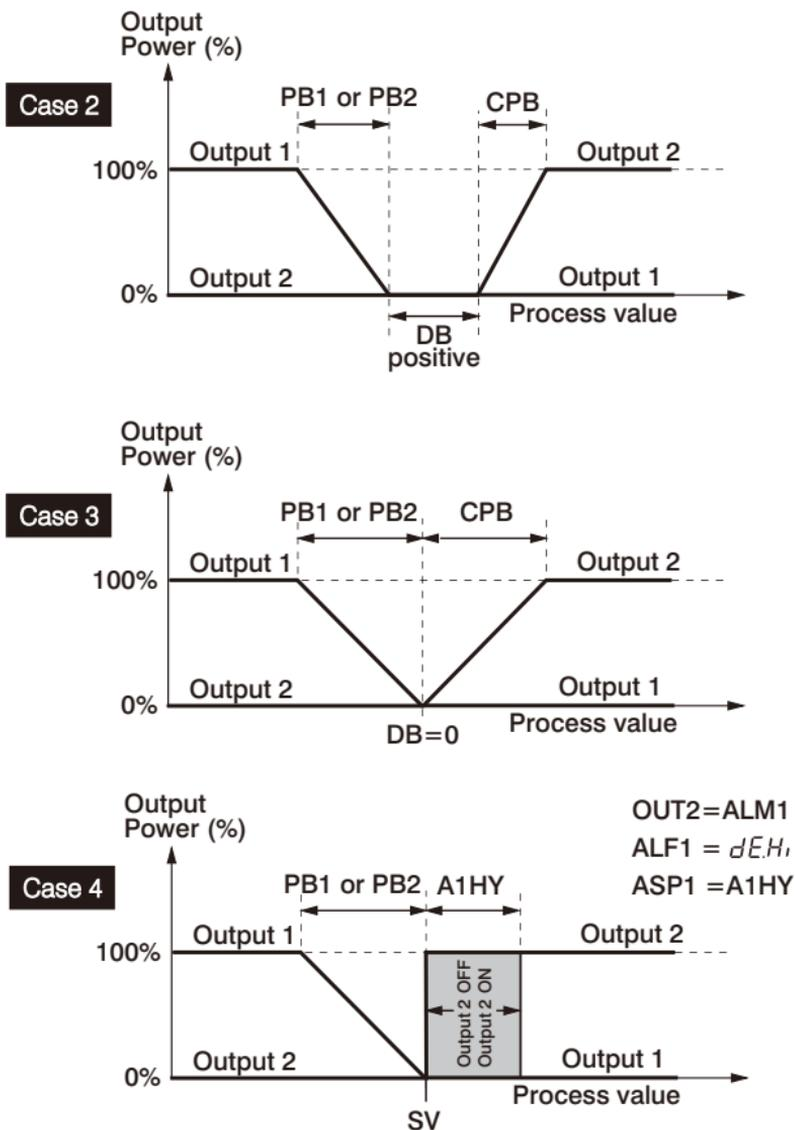

Figure 3.3 Heat - cool Control
**Heat - Cool control:** Three types of combination for heat-cool control are available as shown in table 3.1. The case1 ~ case3 in Fig 3.3 show the heat PID and cool PID operation. The case 4 show the heat PID and cool ON-OFF operation.